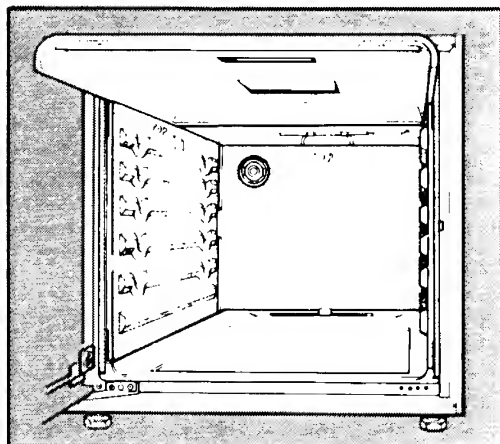

Fig. 5
3. Slide the oven roof back into position along the channels at the top of the side panels. Always ensure that the word 'Front' and the slot in the oven roof liner are positioned towards the front of the appliance (Fig. 5).